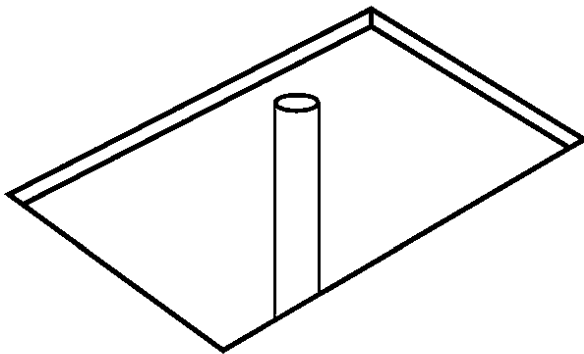

Figure 2
3. Determine the location of the drain pipe, on the floor by taking measurements of the drain and waste location underneath the unit (figure 2).